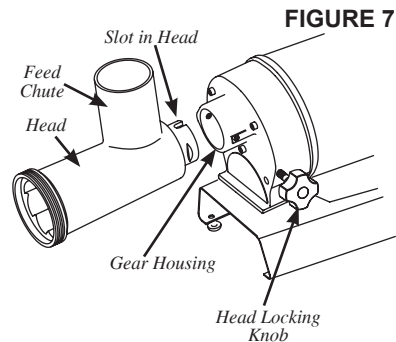

FIGURE 7
1. Insert the **Head** into the **Gear Housing** with the feed chute of the **Head** facing straight up. You will need to line up the slot in the **Head** with the **Pin** inside the **Gear Housing**. Be sure the **Head** is seated fully into the **Gear Housing** (Figure 7).